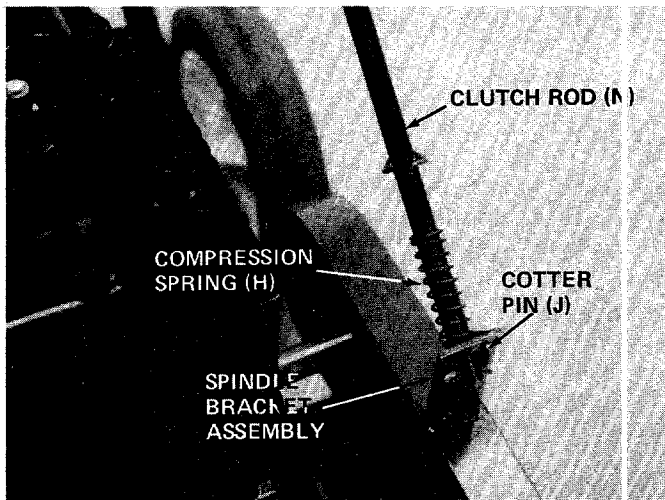

FIGURE 7.
- Place compression spring (H) over straight end of clutch rod (N). Place end of rod in spindle bracket assembly and secure with cotter pin (J). See figure 7.